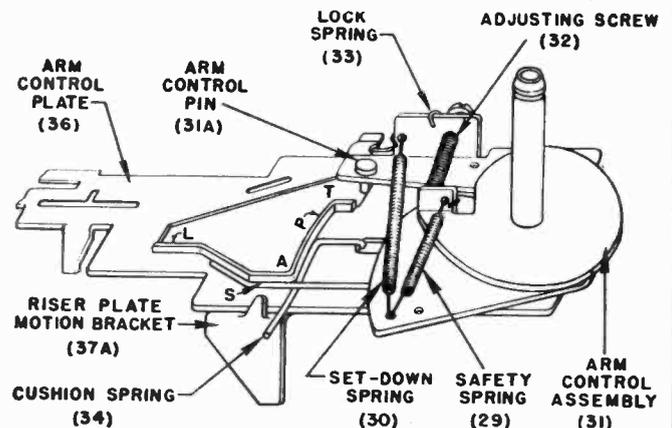

FIGURE 2.
(See Figures 2, 6, and 7.)
While a record is playing and as the pickup arm moves toward the center of the record, the arm control pin (31A) on the arm control assembly (31) moves along the portion of the arm control track (36B) as indicated at "P", figure 2. As the record reaches the pickup or trip point, the pin reaches point "T" on the track. As it moves into the recessed position in which it is shown in the illustration, it permits the trip spring (35) to pull the arm control plate (36) forward towards the centerpost (27). As the arm control plate is drawn forward, the stop tab (36A) on the arm control plate (36) is withdrawn from behind the reject catch (62) on the eccentric cam (61). The cam, which no longer is held in place by the stop tab (36A), is pulled over by the eccentric cam spring (44) until the rubber tire makes contact with the knurled roller (53) on the turntable shaft (28A). This knurled roller, which rotates with the turntable shaft, rotates the eccentric cam. In turn, this forces the riser plate assembly (37) back along its guide rods (51A) away from the centerpost (27). As soon as the riser plate begins to move, the push-off cam and shaft assembly (42) rides along the inclined track (37C) of the riser plate (37). This action causes the push-off cam and shaft assembly (42) to be drawn downward; as a result the pickup arm lift (19) presses down on the arm lift bearing pin (14) causing the pickup arm to be raised clear of the record. Then the riser plate tab (37B) contacts and moves the arm control assembly (31) which, since it is coupled to the pickup arm support assembly (22), carries the pickup arm away from the centerpost and clear of the edge of the turntable. As the riser plate (37) continues to travel further along the guide rods (51A), the riser plate motion bracket (37A) contacts and rotates the push-off cam and shaft assembly (42); as a result, the push-off arm (5) [which is coupled to the push-off cam and shaft assembly (42)] causes the push plate (7C) to drop a record to the turntable.
During the early part of the change cycle, the arm control plate (36) has traveled (in a direction away from the centerpost) until the size change stop (36C) reaches the cam (42B) Figure 2).
(c) With the changer out of cycle, manually move the arm control assembly (31) outwards as far as it moves freely. In this position, the arm control pin (31A) will be located as indicated at "A" in figure 2.